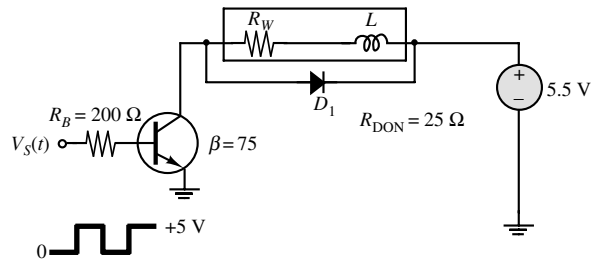

Figure P10.38
10.38 The circuit shown in Figure P10.38 is used to switch a relay that turns a light off and on under the control of a computer. The relay dissipates 0.5 W at 5 VDC. It switches on at 3 VDC and off at 1.0 VDC. What is the maximum frequency with which the light can be switched? The inductance of the relay is 5 mH, and the transistor saturates at 0.2 V, $V_{\gamma} = 0.8$ V.